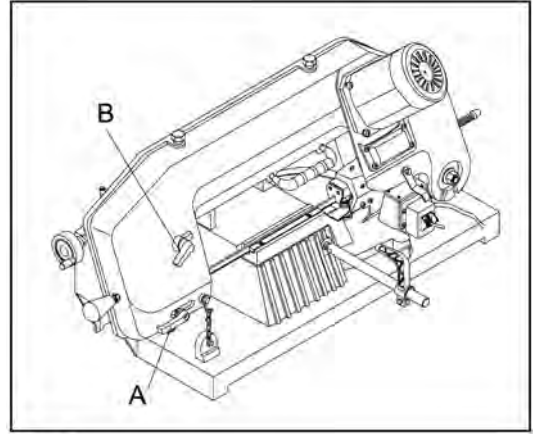

Fig. 8
1. If the work is big, loosen the handle (A) in Fig. 8. Move the guide toward the work about one inch then tighten the handle.
The tension device of this machine is designed for the ready service basis. All you have to do is hold the handle (B) in Fig.8 to control blade tension by giving turn to increase or decrease tension as you wish during machine in operation. The major function of it is to present a perfect cut, because it can make the blade work on constant tension. Furthermore, attached with the tension system, there are a couple of compression springs which are made for decreasing the blade backlash. Consequently, it is for sure to extend life of the blade.